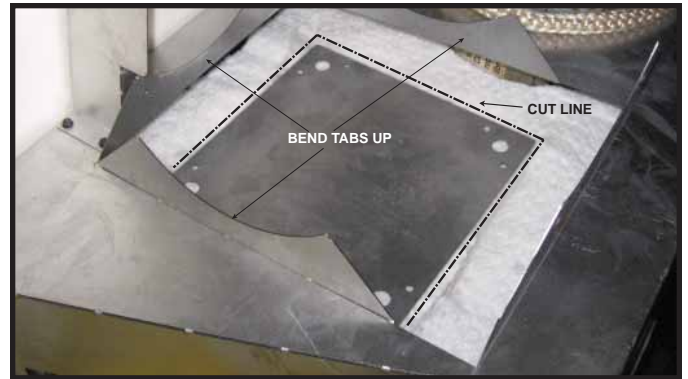

Figure 7.2. Bend Tabs and Cut Insulation.
2. Bend the four pre-cut tabs up to expose the top of the appliance. Place the Heat-Zone® cover plate on the insulation inside the unit centered between the three pre-cut tabs that are the same size as shown in Figure 7.2. Use the Heat-Zone® cover plate as a template and cut around it carefully with a utility knife.